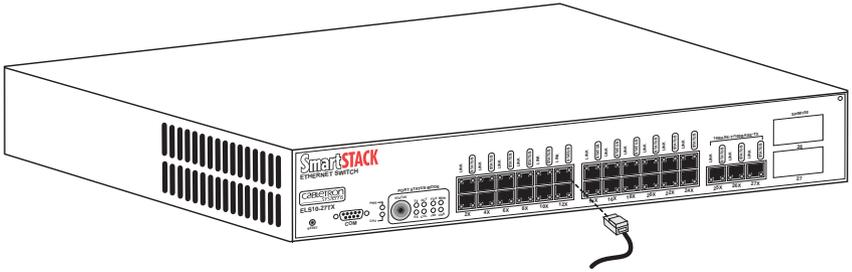

Figure 2-5. SmartSTACK Ethernet ELS10-27 Twisted Pair Connection
2. Refer to Figure 2-5. Connect the twisted pair segment to the SmartSTACK Ethernet ELS10-27 by inserting the RJ45 connector on the twisted pair segment into the desired RJ45 port.